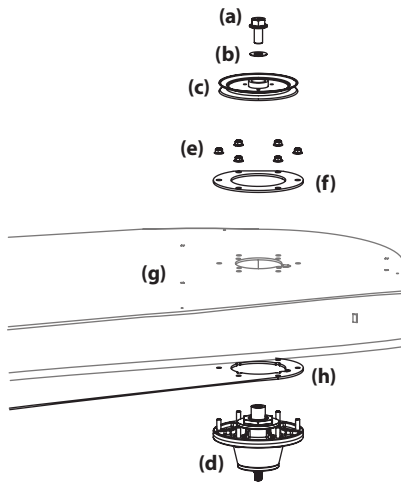

Figure 4-26
6. Remove the hex flange bolts (a) and flat washers (b) securing the left and right spindle pulleys (c) to the spindle assembly (d). See Figure 4-26.
7. Remove the six (6) flange lock nuts (e) securing the left and right spindle assemblies (d) and the support plates (f) to the deck shell (g). See Figure 4-26.
10. Reverse the process to install the spindle assembly. When installing the new spindle assembly be sure to install the hardware exactly as shown in Figure 4-26. Torque the hex flange bolts to 250 ft-lbs and the flange lock nuts to 21-32 ft-lbs.